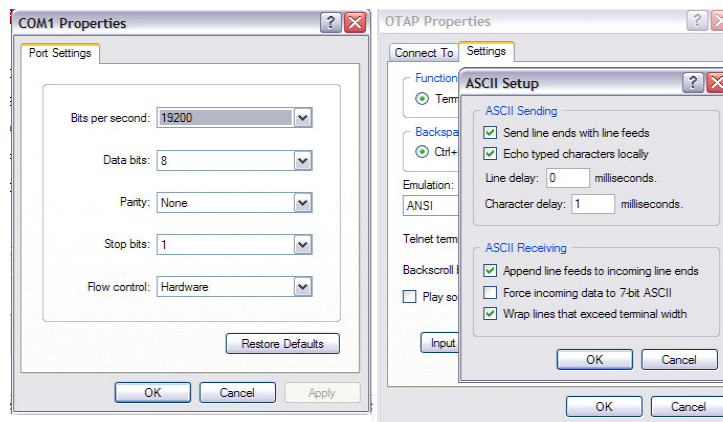

Figure 56. Manual HyperTerminal Configuration
2. As shown in Figure 56, use the following settings to manually configure HyperTerminal: